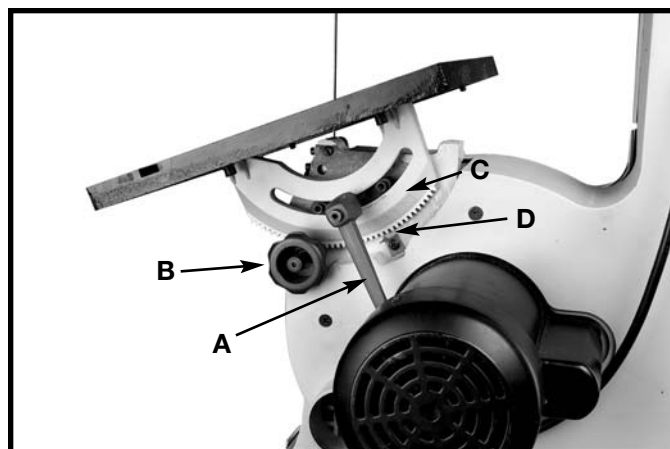

Fig. 31
The table can be tilted 45 degrees to the right. To tilt the table, loosen lock handle (A) Fig. 31 and turn knob (B) clockwise until desired angle is established. Then tighten lock handle (A). **NOTE:** The table lock handle (A) can be repositioned by pulling out on the handle and repositioning it on the nut located underneath the hub of the handle. A scale (C) and pointer (D) are provided to indicate the degree of tilt.